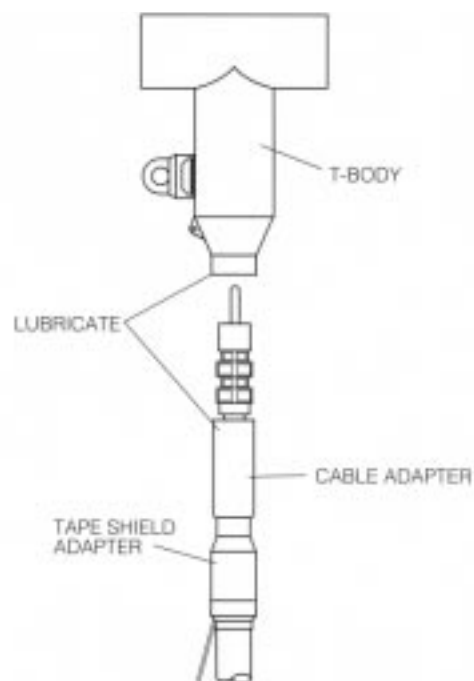

Figure 16.
- Slide T-Body onto cable until compression connector eye is centered in 600 A interfaces. (Refer to Figure 16.)